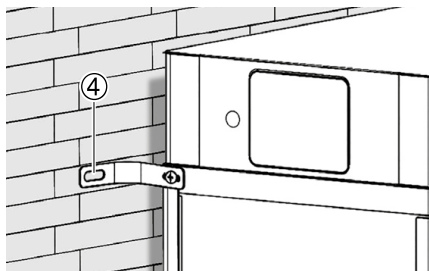

Fig. 3.16 - Central points holes
- Mark the central points of the slotted holes at both sides on the wall (4, Fig. 3.16).